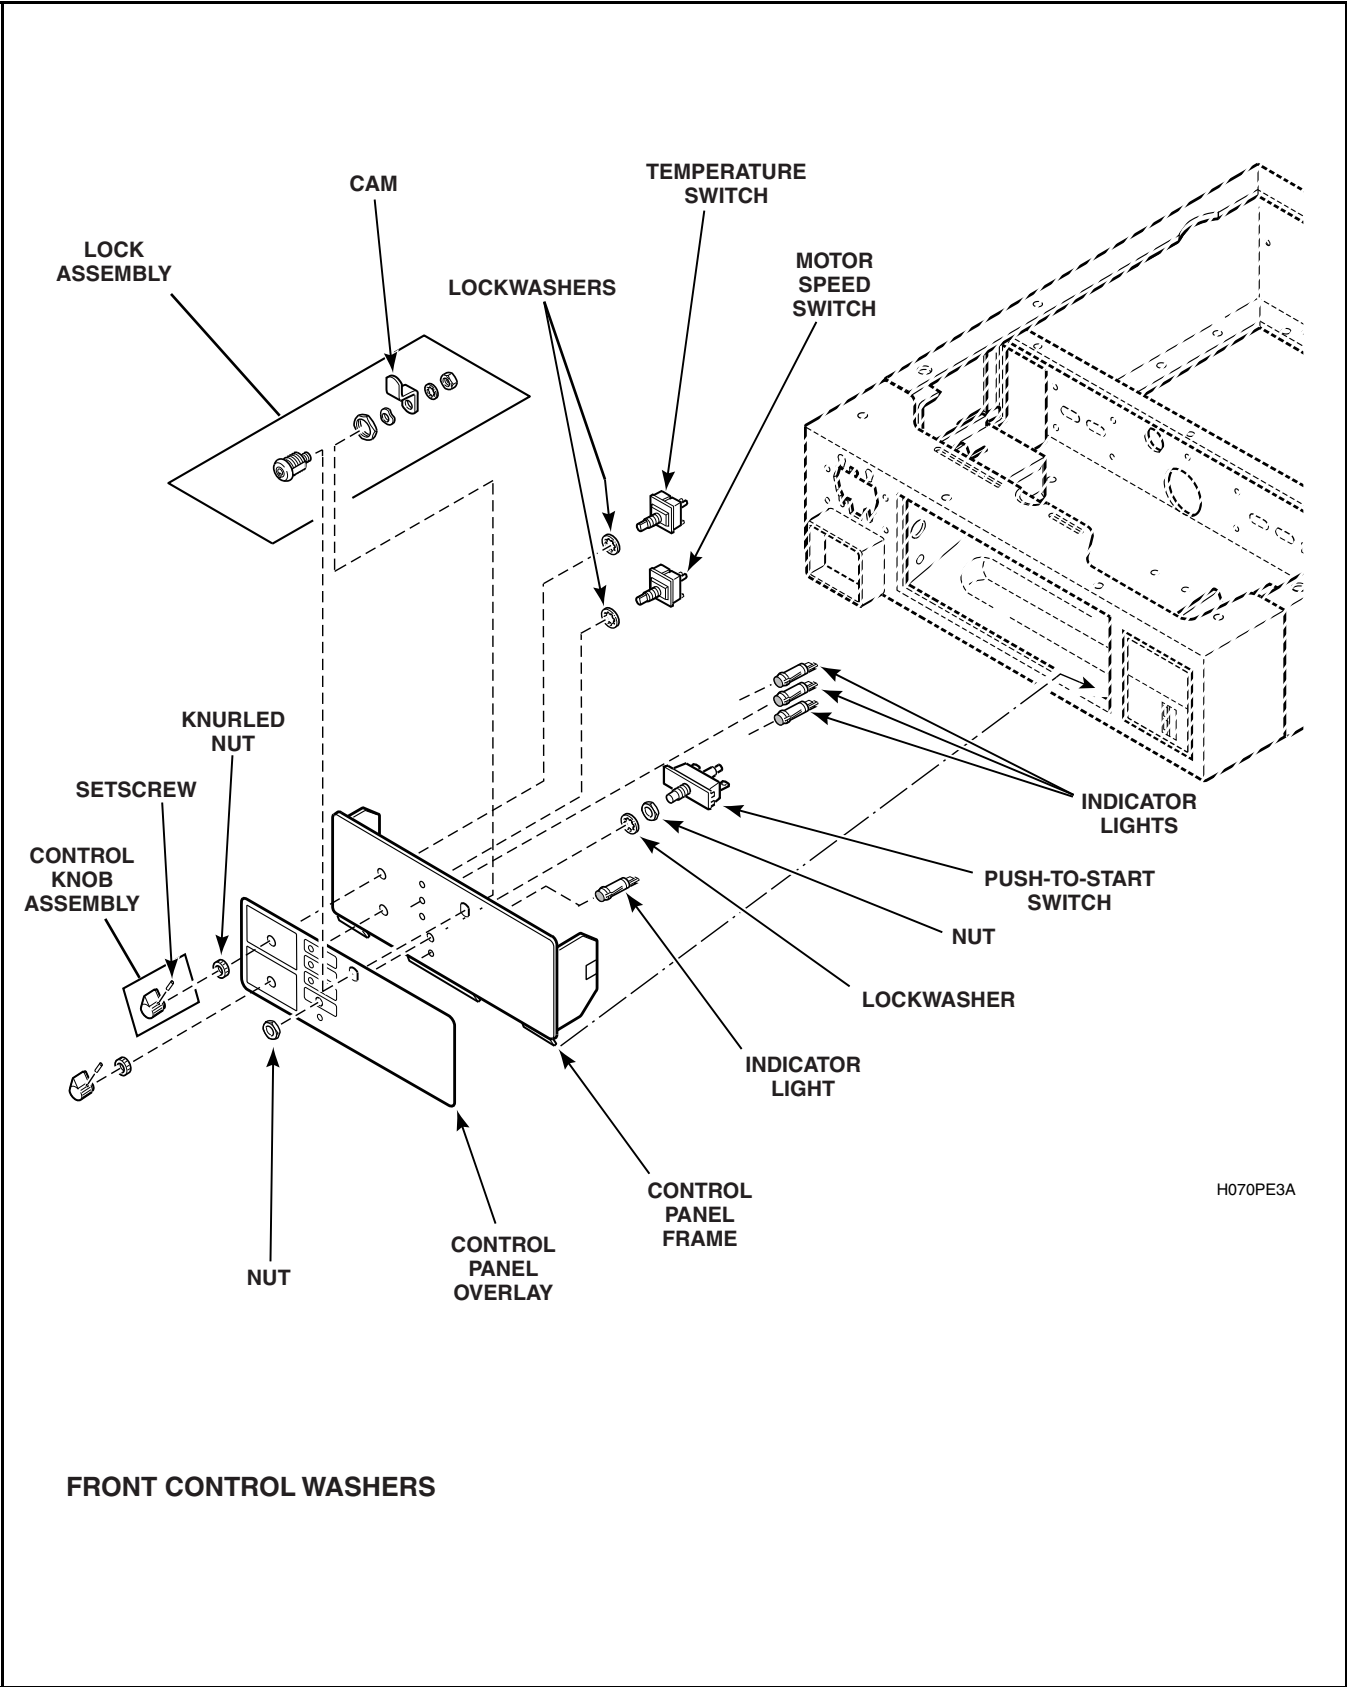

Figure 27
- c. Loosen setscrews holding switch knobs to temperature and motor switch shafts and pull knobs off switch shafts. Refer to *Figure 27* or 28.
- d. Remove nuts holding temperature and motor switches to control panel and remove switches. Refer to *Figure 27* or 28.
- e. Remove nut holding push-to-start switch to control panel and remove switch. Refer to *Figure 27* or 28.
- f. Squeeze locking tabs together holding indicator light(s) to control panel and pull light out rear of control panel. Refer to *Figure 27* or 28.
#### e. Indicator Lights (In Use, Rinse or Spin - Refer to *Figure 27*)
- d. **Front Control Washers** - Remove lock assembly from control panel. Refer to *Figure 27*.
**NOTE: Before removing protective backing from new overlay, check fit of overlay to control panel assembly. Refer to *Figure 27* or *28*.**